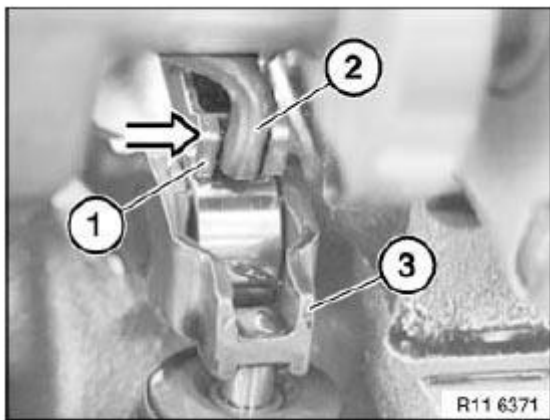

Fig. 655: Inserting Torsion Spring On Intermediate Lever
Insert torsion spring (2) in intermediate lever (1) (see arrow in **Fig. 655**).